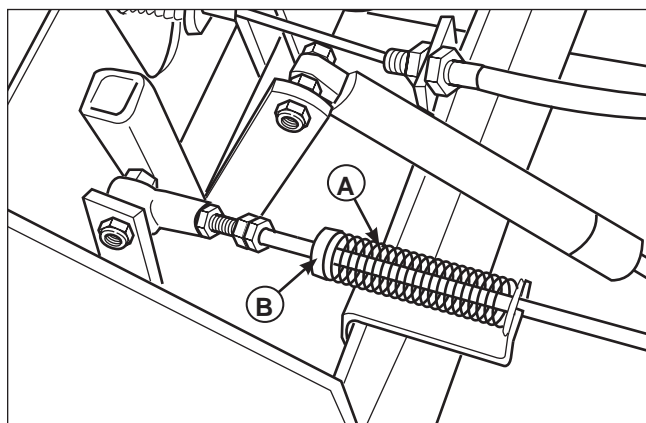

Figure 36. Return to Neutral Adjustment
1. Loosen the set collar (**B**, **Figure 36**) locked against the return spring (**A**).